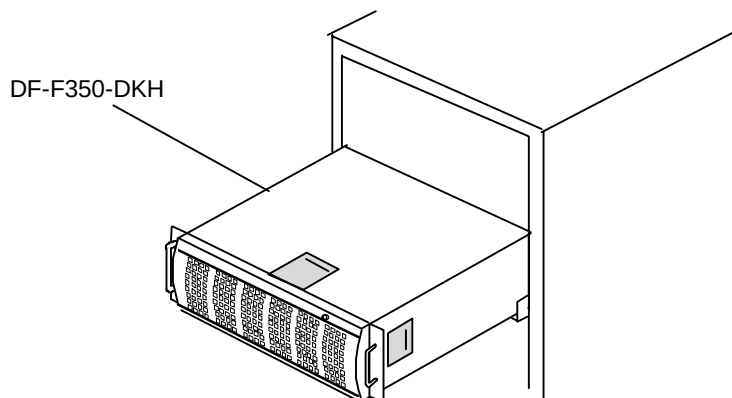

Figure 3.4.5 Installing the Subsystem in the Rack
3.4.4 Installing the subsystem into the rack (See Figure 3.4.5.)